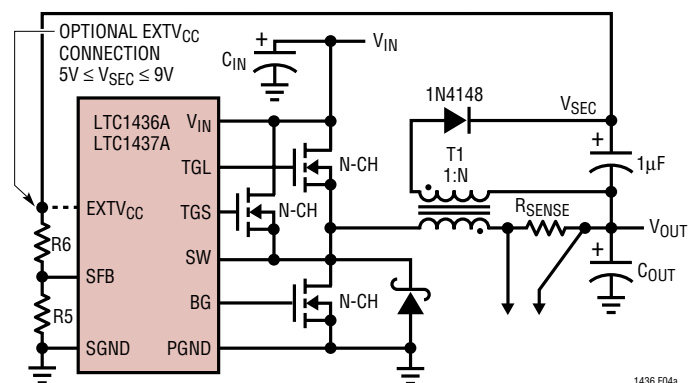
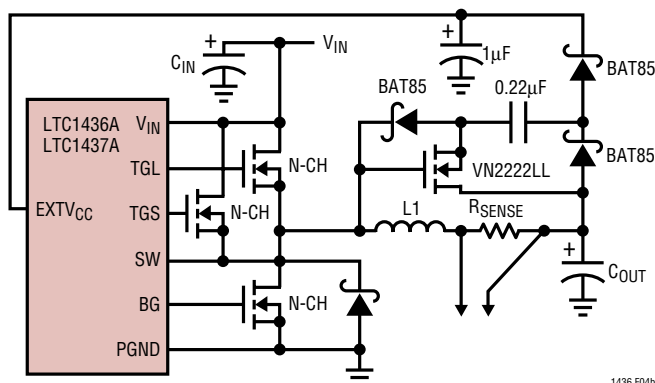

Figure 4a. Secondary Output Loop and EXTVCC Connection
Figure 4b. Capacitive Charge Pump for EXT VCC
3. EXTVCC connected to an output-derived boost network. For 3.3V and other low voltage regulators, efficiency gains can still be realized by connecting EXTVCC to an output-derived voltage which has been boosted to greater than 4.8V. This can be done with either the inductive boost winding as shown in Figure 4a or the capacitive charge pump shown in Figure 4b. The charge pump has the advantage of simple magnetics.
The secondary output voltage is set by the turns ratio of the transformer in conjunction with a pair of external resistors returned to the SFB pin as shown in Figure 4a. The secondary regulated voltage  $V_{SEC}$  in Figure 4a is given by: